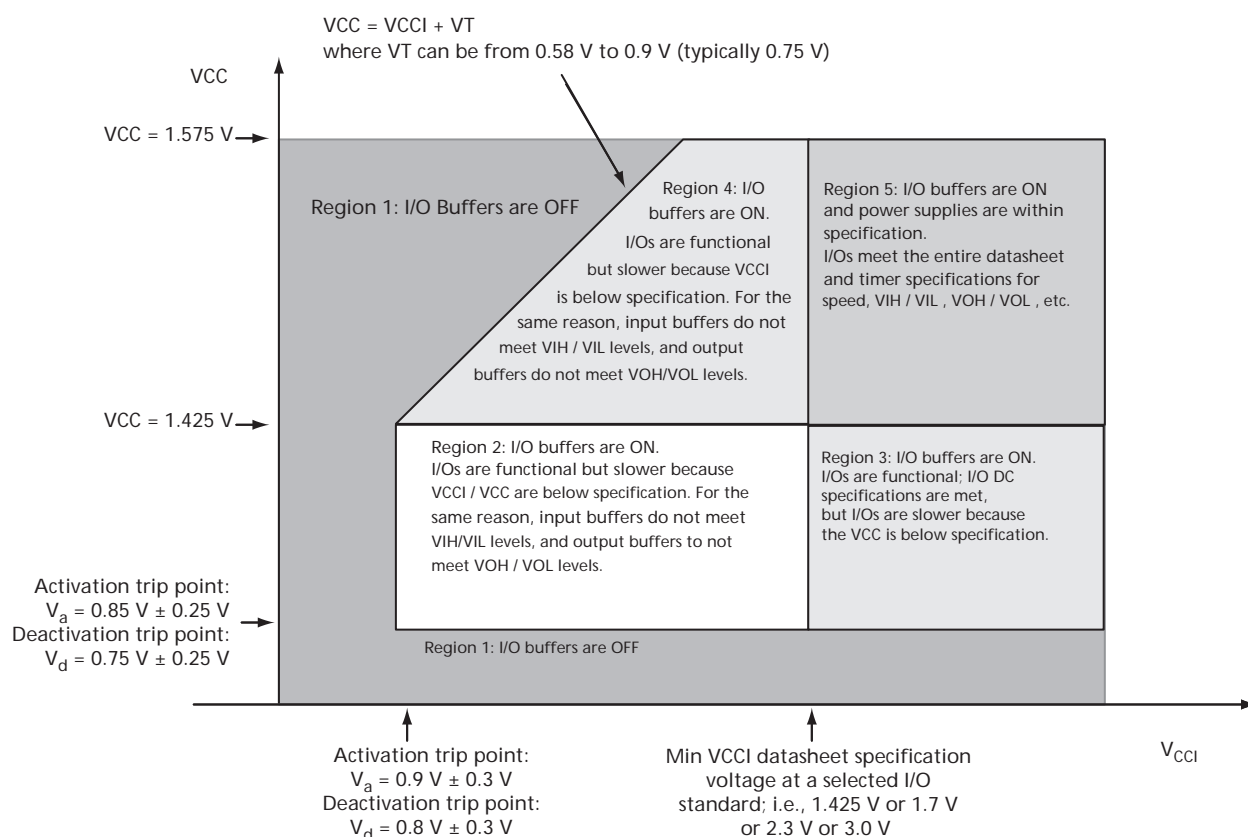

Figure 2-1 • V5 Devices – I/O State as a Function of VCCI and VCC Voltage Levels
Sophisticated power-up management circuitry is designed into every IGLOO nano device. These circuits ensure easy transition from the powered-off state to the powered-up state of the device. The many different supplies can power up in any sequence with minimized current spikes or surges. In addition, the I/O will be in a known state through the power-up sequence. The basic principle is shown in Figure 2-1 on page 2-4.
1. VCC and VCCI are above the minimum specified trip points (Figure 2-1 and Figure 2-2 on page 2-5).
Microsemi recommends using monotonic power supplies or voltage regulators to ensure proper power-up behavior. Power ramp-up should be monotonic at least until VCC and VCCPLX exceed brownout activation levels (see Figure 2-1 and Figure 2-2 on page 2-5 for more details).